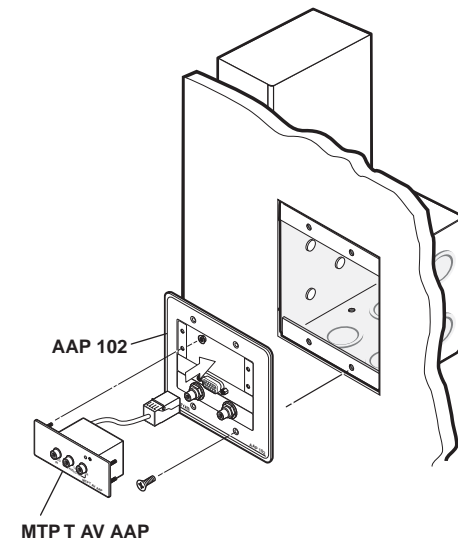

Figure 2-11 — AAP mounting an MTP transmitter
Install an MTP transmitter in an AAP frame as follows (figure 2-11):
4. Install the AAP frame as appropriate to the type of frame. Figure 2-11 shows the transmitter module being installed in an AAP 102 wall mounting frame and the frame being installed in a wall box.